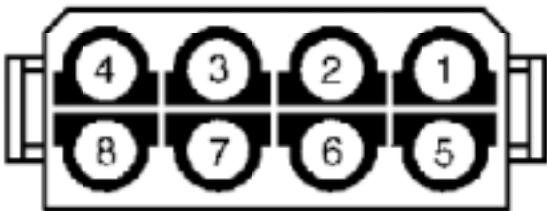

Fig. 9
Using a DVOM, check continuity between appropriate gear position sensor 8-pin connector terminal and TCM 30-pin connector terminal. See Figs. 9 and 11. Continuity should exist for each circuit. If continuity does not exist, repair circuit(s) as necessary. For gear position sensor connector terminal locations, See Fig. 9 For gear position sensor connector terminal identification, refer to the SENSOR-TO-TCM CONNECTOR TERMINAL IDENTIFICATION table.
(1) - For terminal locations, See Figs. 9 and 11.